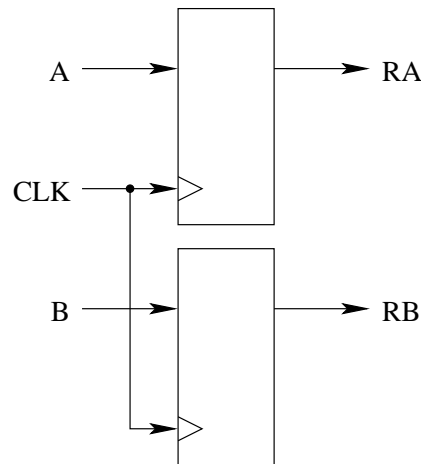

Figure 1: The *ABREG* digital circuit
- 1.1. We consider *ABREG*, a small digital circuit, represented on figure 1. *A* and *B* are primary inputs. *RA* and *RB* are primary outputs. The two registers are regular D flip-flops. They sample their inputs on the rising edge of clock *CLK*. Express in CTL a temporal-logic property stating that the environment is not allowed to change both *A* and *B* in a single clock period.